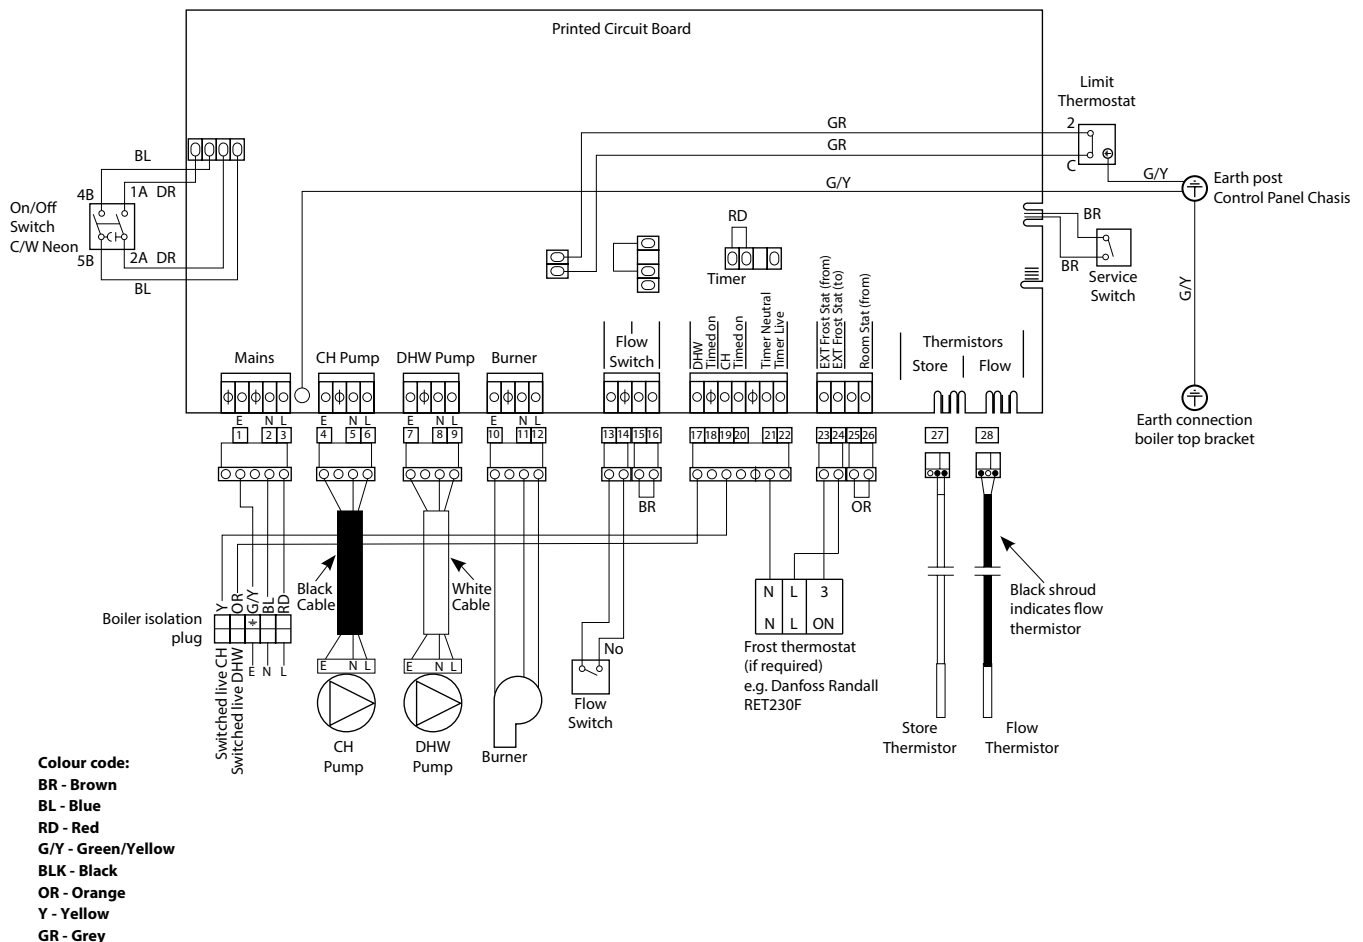

Figure 8-1: Boiler Wiring Diagram
Refer to Figure 8-1 for the control panel wiring diagram for all Vortex Pro External combi models.
- Frost thermostat Neutral (N) to terminal 21 on PCB connector.
- Frost thermostat Live (L) to terminal 24 on PCB connector.
- Frost thermostat Switched Live-ON (3) to terminal 23 on PCB connector.
6. Refer to Figure 8-1 for typical connection of Remote Frost Thermostat.